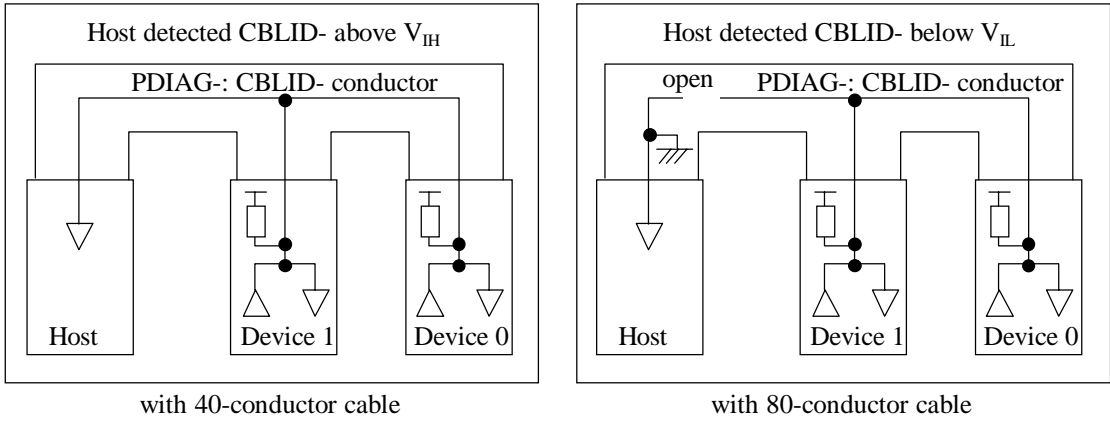
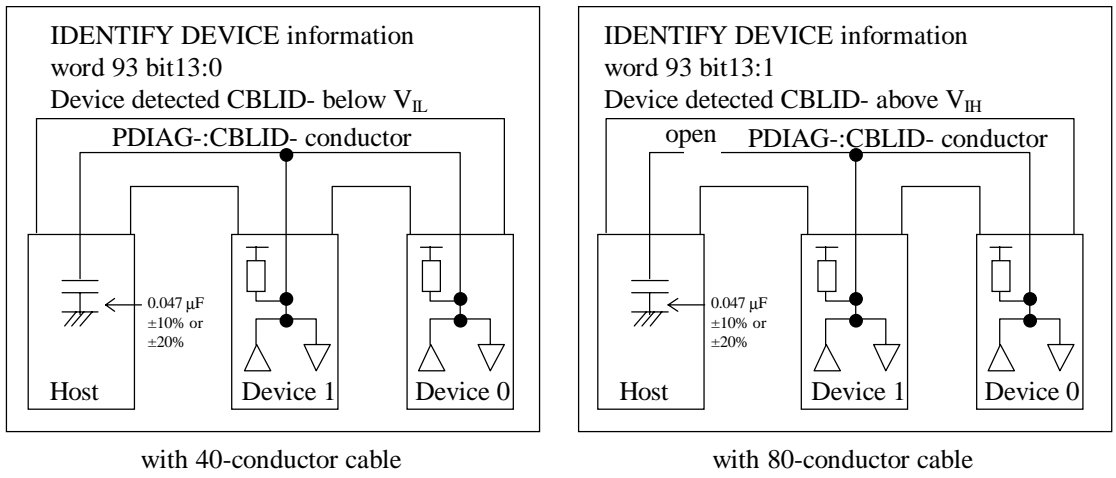

Figure 3.12 Cable type detection using CBLID- signal (Host sensing the condition of the CBLID- signal)
Figure 3.13 Cable type detection using IDENTIFY DEVICE data (Device sensing the condition of the CBLID- signal)
- b) Host system that do support Ultra DMA modes greater than mode 2 shall either connect directly to the device without using a cable assembly, or determine the cable assembly type. Determining the cable assembly type may be done either by the host sensing the condition of the PDIAG-:CBLID- signal (see Figure 3.12), or by relying on information from the device (see Figure 3.13). Hosts that rely on information from the device shall have a 0.047 μF capacitor connected from the PDIAG-:CBLID- signal to ground. The tolerance on this capacitor shall be 20% or less.